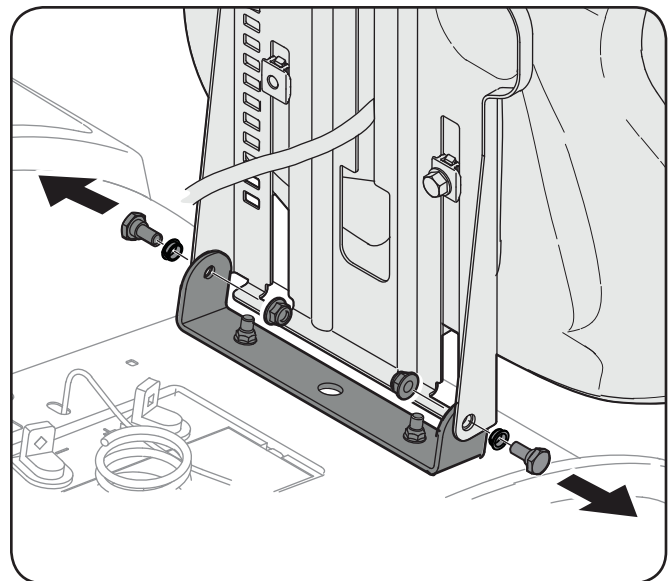

Figure 3-2
2. Remove the two shoulder screws, flange bearings and flange lock nuts in the seat pan as shown in Figure 3-2.